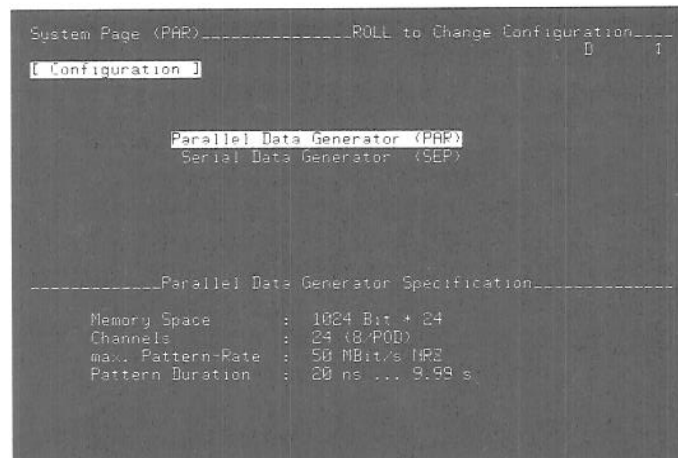

Figure 3D-1. [Configuration] menu
**[Peripherals] menu** (Refer to Figure 3D-2)